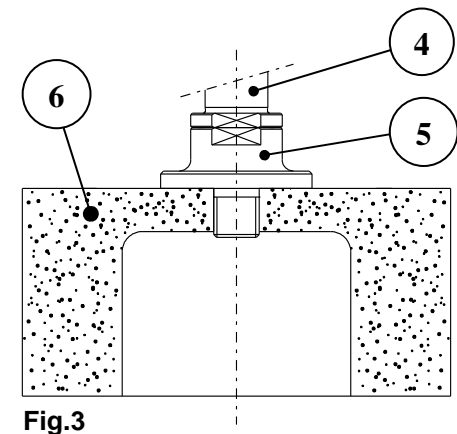

Fig.3
- *assembly Fig.3* >> Immobilise the grinding wheel ⑥, then unscrew the wheel holder plate ⑤ (27 open-ended spanner).
- *assembly Fig.3* >> Immobilise the grinding wheel ⑥, then screw in the wheel holder plate ⑤ (27 open-ended spanner).